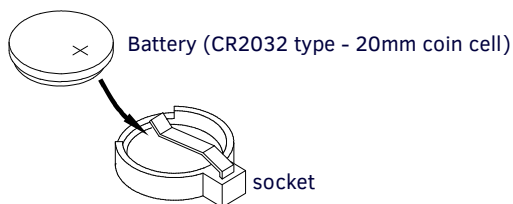

FIG. 9 Lithium battery and socket
4. Carefully slide each battery out of its socket (FIG. 9), and insert the new battery.